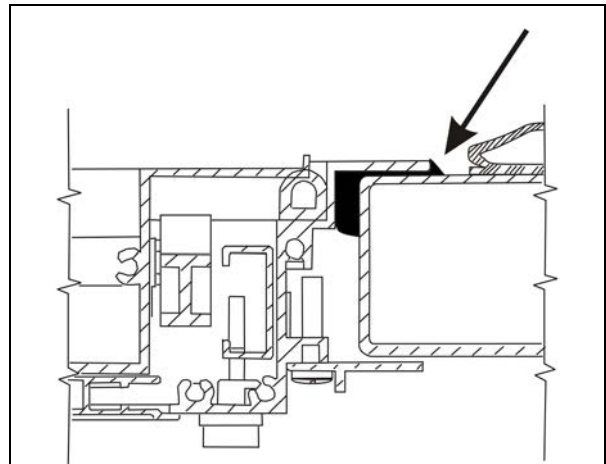

FIGURE 72: SMOOTH DOWN THE JOINT
10. Open the awning window manually and smooth down the joint (FIGURE 72) and remove glue in excess with Sika 208;